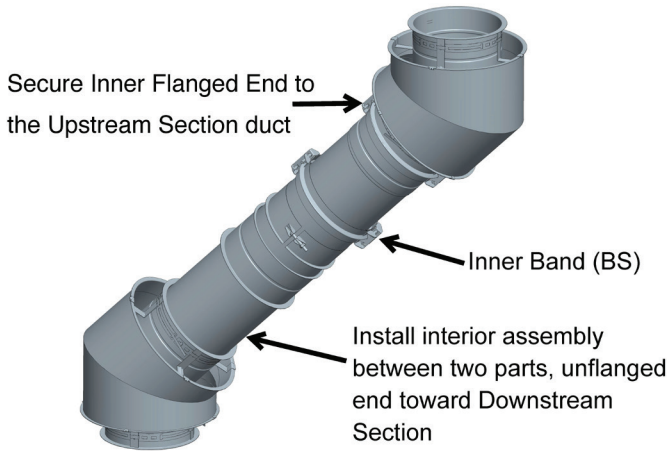

Figure 16 - Step 4-5- Install the inner LV and secure the outlet end flange
Step 5 - Assemble the outlet end sliding innerwall to the outlet end section as a regular section (See JOINT ASSEMBLY section). See Figure 16.